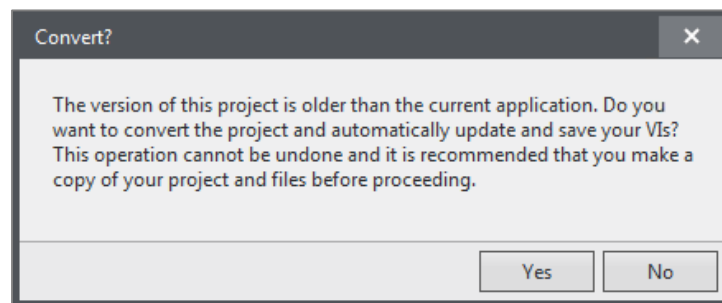

Figure 92: Convert Dialog
3. Click **Yes** to convert as shown in Figure 92.